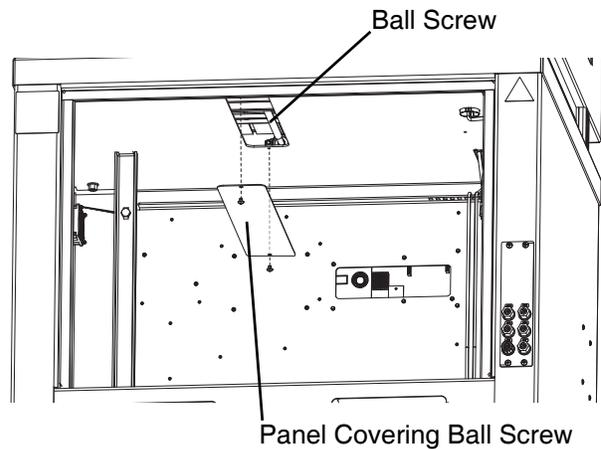

FIG. 16: Remove Ball Screw Cover
NOTE: Access to the ball screw is through the rear, lower panel of the machine. See **Figure 16**.
4. Use a Phillips head screw driver to remove the two screws from the small panel covering the ball screw. See **Figure 16**.